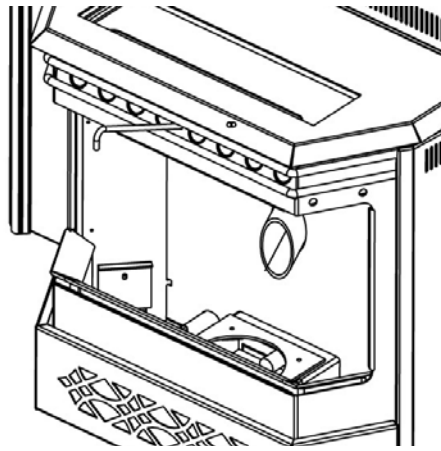

Figure 42
3. Vacuum out the firebox, louvres, air housing, burn pot and the opening at the top of the exhaust manifold of all fly ash. See **Figure 42 and 43.**